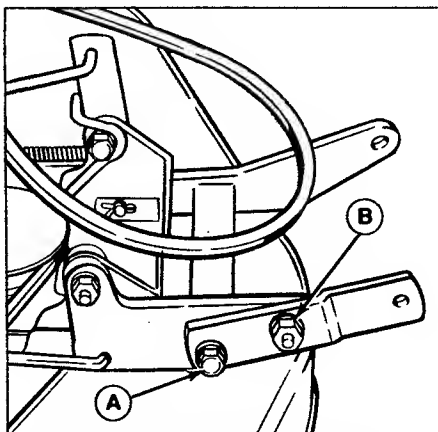

Figure 32. Mower Hitch (shown removed from tractor)
4. Loosen the capscrew and flange nut in right mower hitch (figure 32).
6. Retighten the capscrew (A, figure 32) and flange nut (B). Torque capscrew (A) to 50 ft. lbs. Torque nut (B) to 65 ft. lbs.